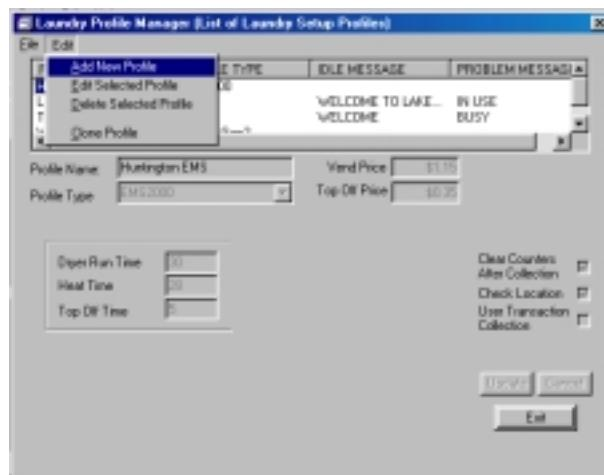

Figure 3.13 Adding a New Laundry Profile
3. The Laundry Profile Manager will open. Select **Add New Profile** from the Edit drop-down menu (Figure 3.13)